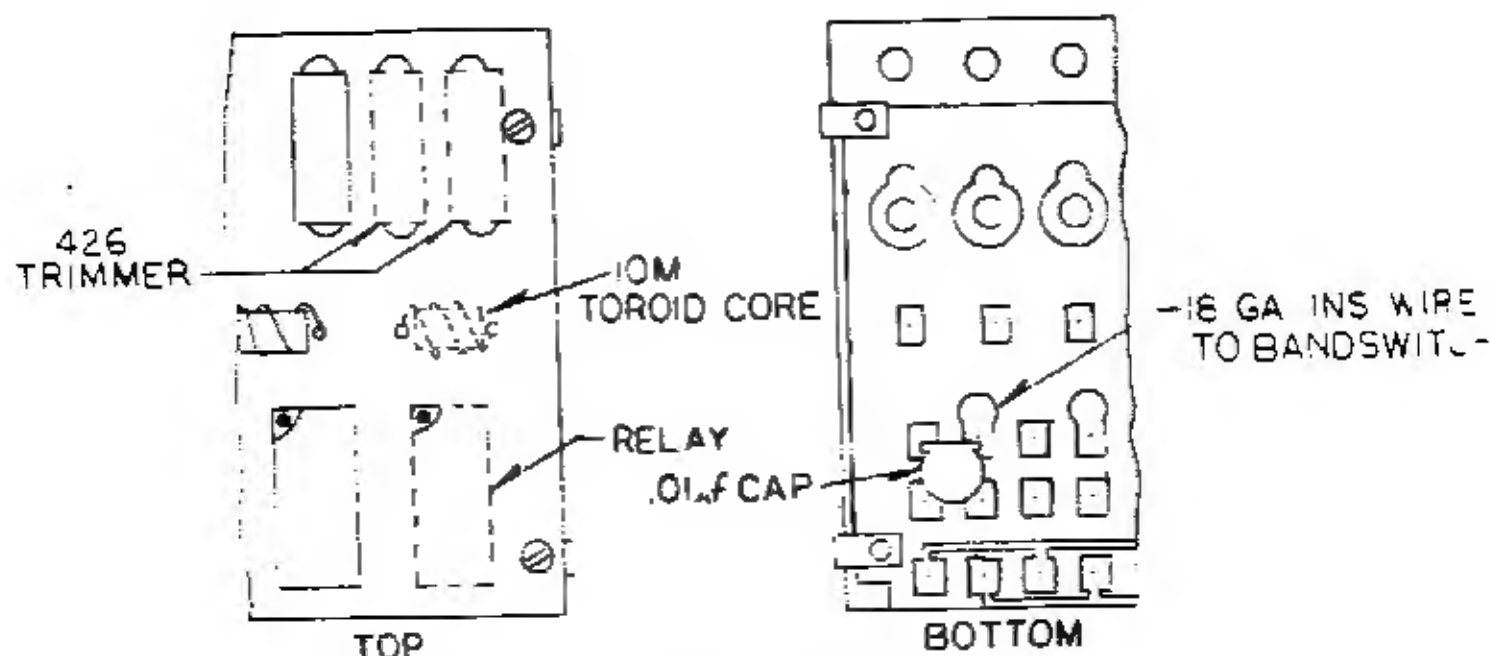

FIG. 1 (ATI-6)
Refer to FIGURE 1 for steps 1 through 4.
STEP 2. Install the Relay and two (2) 426 Trimmer Capacitors as shown. Be certain that they are positioned exactly like the existing parts. Install the Toroid Core. Install .01uf capacitor as shown in FIGURE 1.